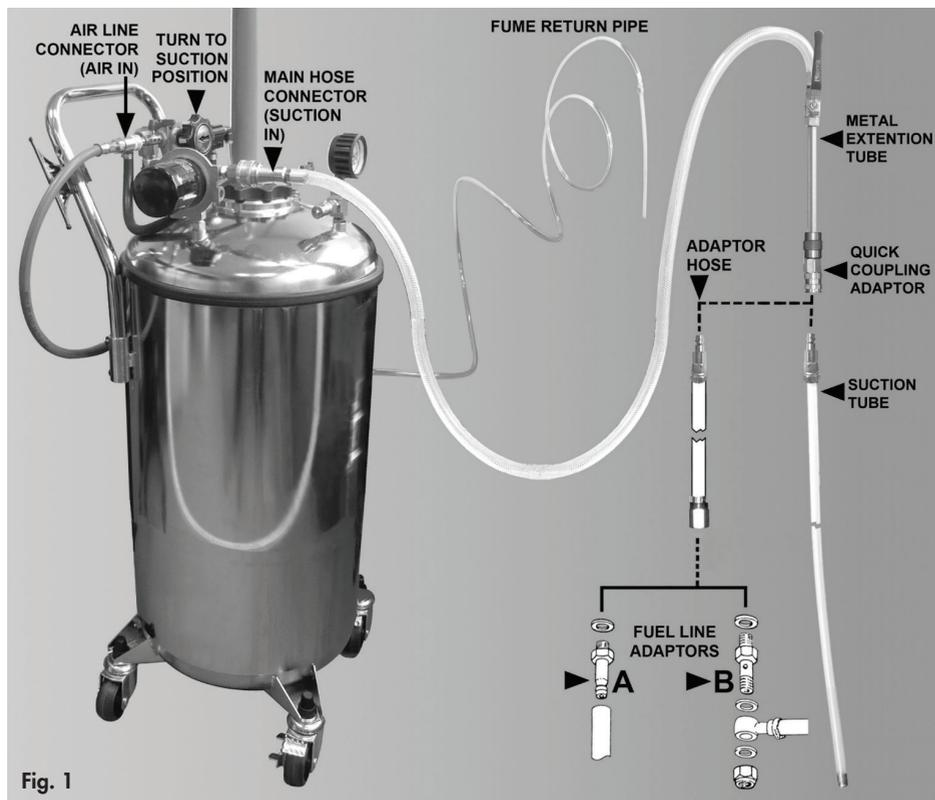

Fig. 1
3. Connect the **quick coupling adaptor** to the metal extension tube the **main hose**. (see fig. 1)
4. Plug the male fitting of the **adaptor hose** into the **quick coupling adaptor**. (see fig. 1)
5. Screw the **fuel line adaptor** and washer into the end of the **adaptor hose**. (see fig.1)
6. Disconnect the carburettor's fuel inlet pipe and push it onto the **fuel line adaptor**. (see fig.1)
6. Disconnect the vehicle's fuel inlet pipe coming from the tank and slide the "banjo" fitting onto the **fuel line adaptor**. (see fig.1)